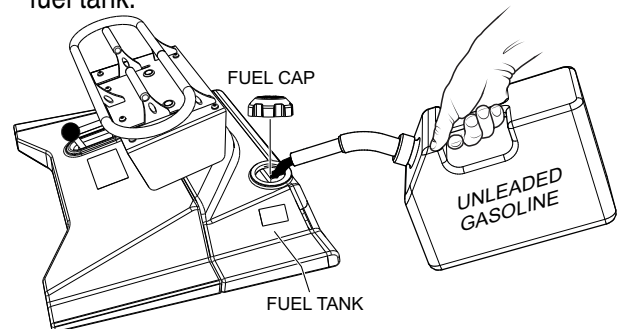

Figure 7. Fuel Tank
1. Remove the fuel cap (Figure 7) located on top of the fuel tank.